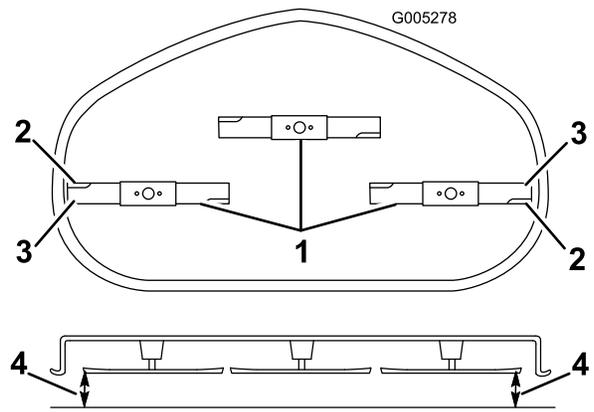

Figure 54
4. Carefully rotate the blade(s) so that they are all side to side (Figure 54).
5. Measure between the outside cutting edges and the flat surface (Figure 54). If both measurements are not within 5 mm (3/16 inch), an adjustment is required; continue with this procedure.